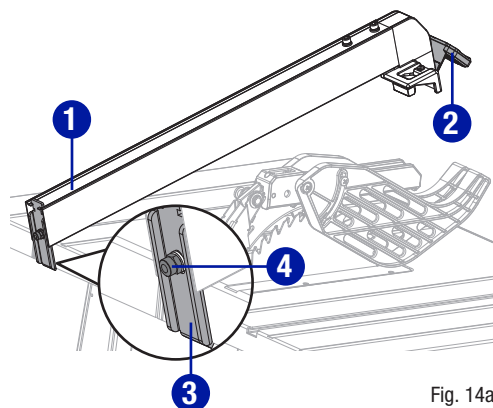

Fig. 14a
RIP FENCE INSTALLATION AND USE (Fig. 14a-14b)
The rip fence must be secure when the locking handle is engaged. To increase the grip of the rip fence on the rear lip of the table, tighten the clamp screw (4) on the rear of the rip fence by turning it clockwise. (Fig. 14a)